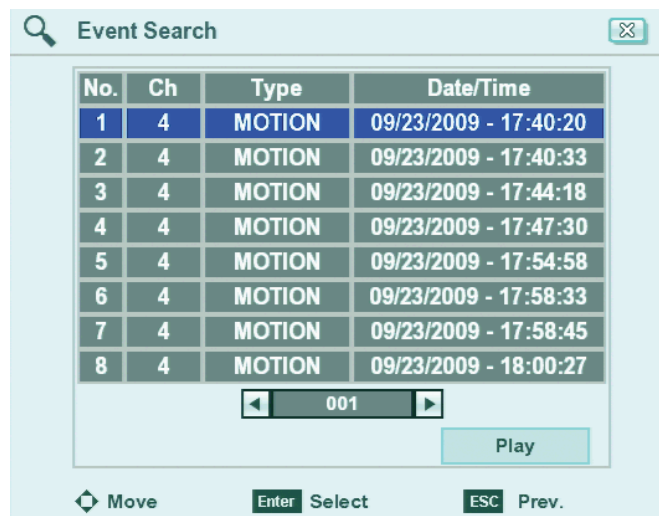

Figure 18. Event Search Results
4. Click an event, and then click Play (refer to Figure 18).